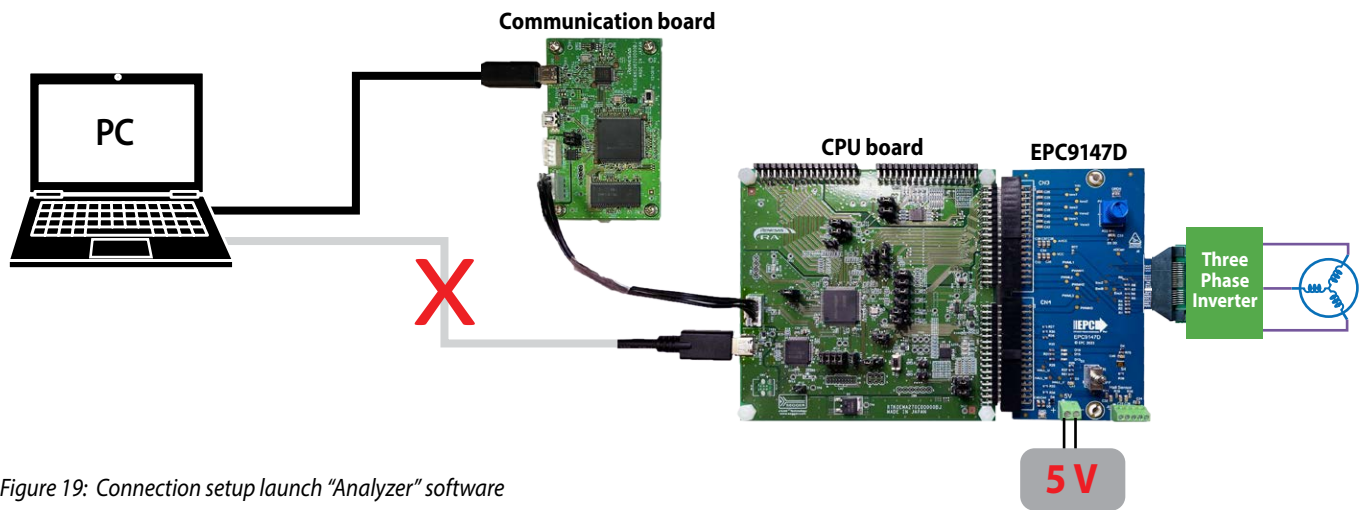

Figure 19: Connection setup launch "Analyzer" software
- b) Connect the 3-phase inverter board and motor combo to the Communication board and CPU board combo (figure 19)